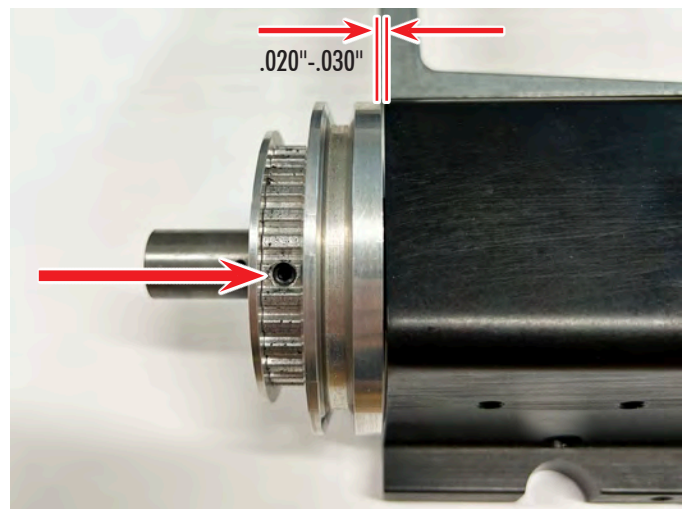

FIGURE 3
3. Push the pulley assembly onto the spindle with the set screw (P/N 31080) aligned with the flat on the spindle. Make sure there is a .020-.030" (.50-.75 mm) gap between the front of the pulley and the back of the headstock (see Figure 3).